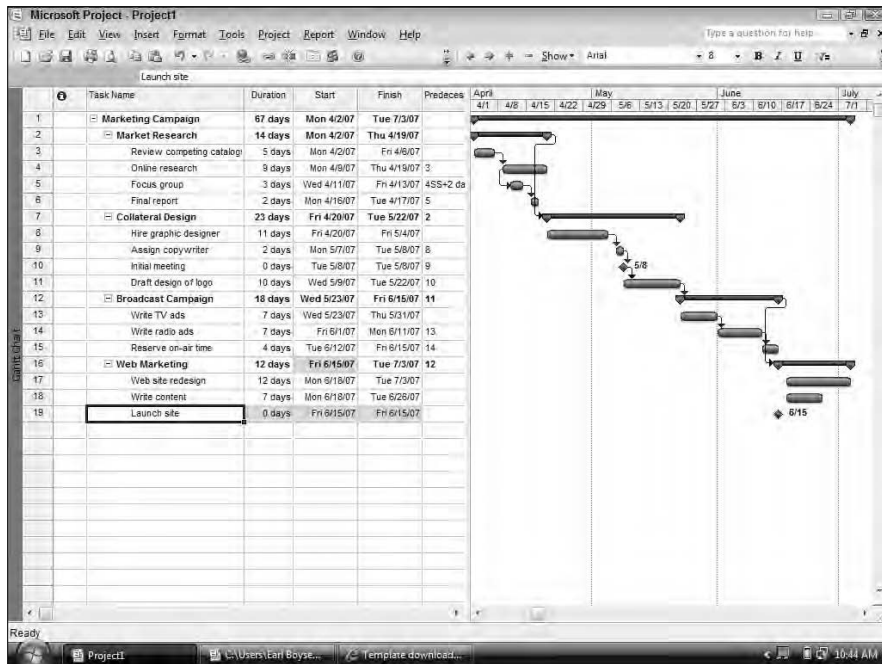

Figure 1-2: Timing built into the workflow of tasks.
2. Finalizing the plan: After you've gathered all your resources and thought through the steps of your project in the planning phase, it's time to dot your *i*'s and cross your *t*'s so you're ready to launch the project. In Project, this means making sure all the logical timing relationships between tasks have been accounted for (see Figure 1-2), all the cost information for resources is correct, and that you resolve any resource conflicts. (An example of a *resource conflict* is when one person is booked to work 16 hours in one day, for example.) This is also the time to present your final plan to management and get their approval. (Project's reporting capabilities come in handy here.) When your plan is approved, you save a baseline project against which you can track actual progress after your project begins.